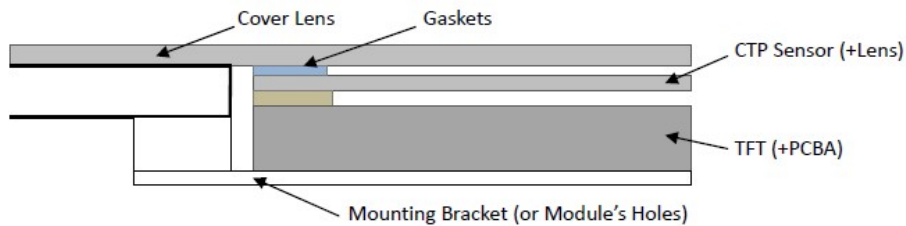

Figure 3
10.3 Additional Cover Lens Mounting (Figure 3)
10.3 覆加盖板 (附图 3)